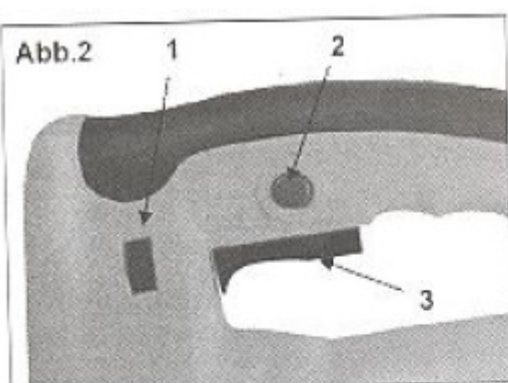

Abb.2
- Set the orbital cut setting switch (8) to pos. III.
- To insert the blade, unscrew all the screws by the saw blade mount with the included Allen key (9).
2.) Switching on and off (Fig. 2)
- Operate the on/off switch (3) to turn on the electric tool. To turn off the tool, release the on/off switch.
3.) Continuous operation (Fig. 2)
4.) Turning on the laser (Fig. 2)
- As soon as the jigsaw is plugged into the mains, the laser can be turned on or off using the switch (12) underneath the bend protection of the power cable.
5.) Stroke rate control (Fig. 2)